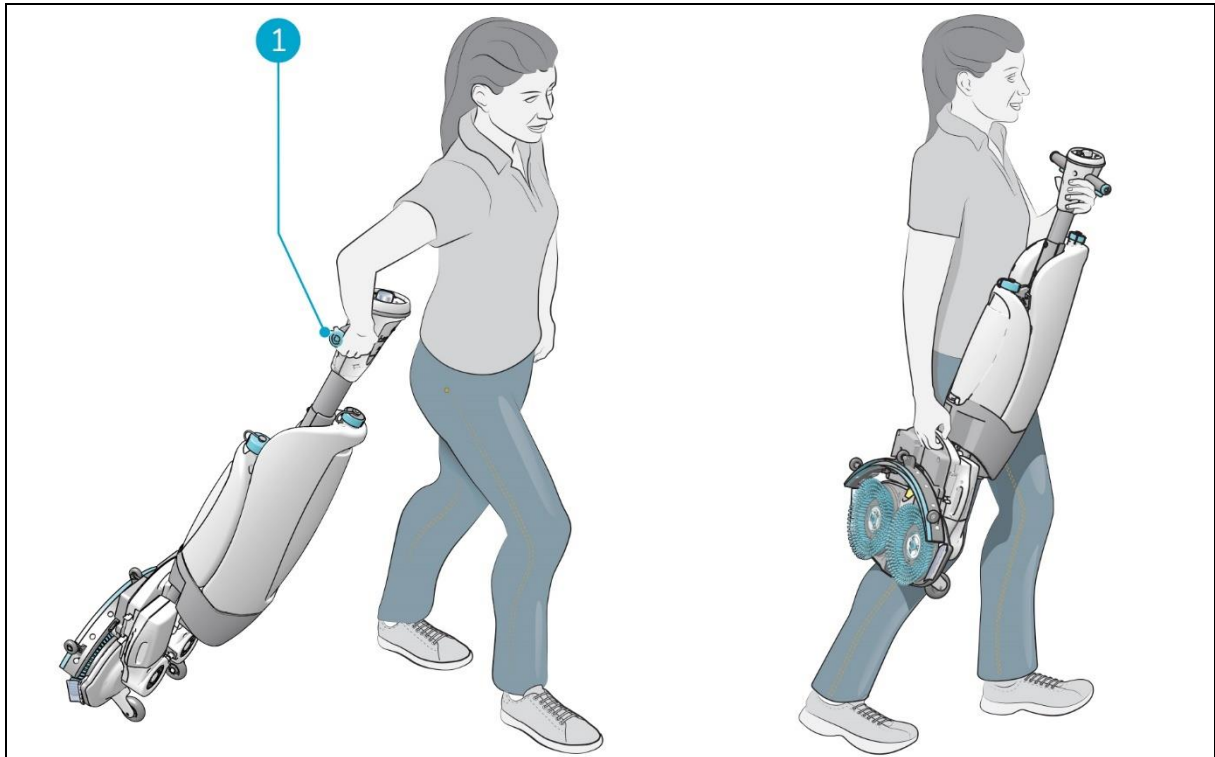

Figure 14
2. Hold the handle with one hand (Figure 14, pos 1).